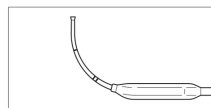

Figure 6: Frontal Bend
– **Frontal Sinuses:** When treating the frontal recesses, a large radius curve similar to a frontal sinus seeker (Figure 6) is recommended. This is the shape/curve provided in the package.